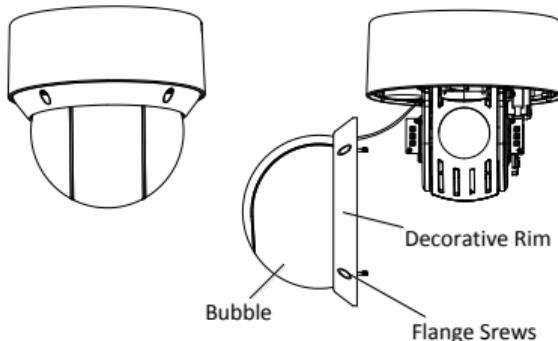

Figure 2-6 Remove the Bubble and the Decorative Rim
2. Loosen four flange screws with a screwdriver. Remove the bubble and the decorative rim as shown in Figure 2-6.